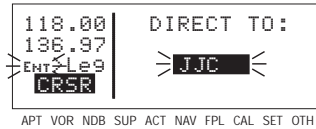

Figure 3-103
2. Press **[▶]**. The Direct To page is displayed and it contains the desired waypoint identifier (figure 3-103).